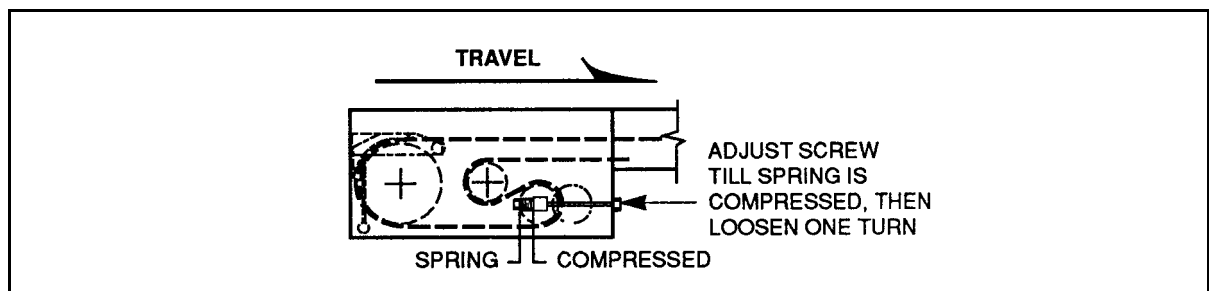

Figure G.70 – Infeed Drive Unit
- Step 1. Adjust take-up sprocket until the tensioner spring is completely compressed; then back off (loosen) take-up screw one (1) turn (see Figure G.70).